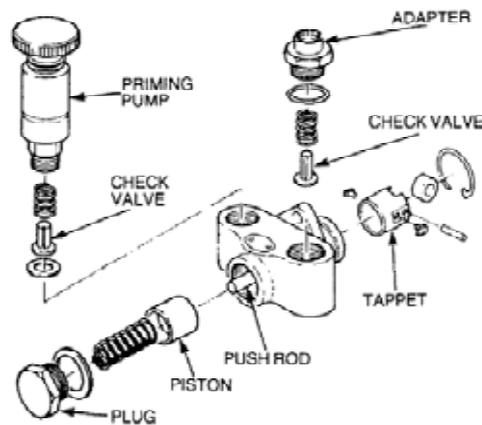

Figure 125 Transfer Pump Exploded View
- a. Remove the transfer pump in accordance with EMEI Vehicle G 103 and place it in a clean, dust free location. An exploded view of the transfer pump is shown in Figure 125.